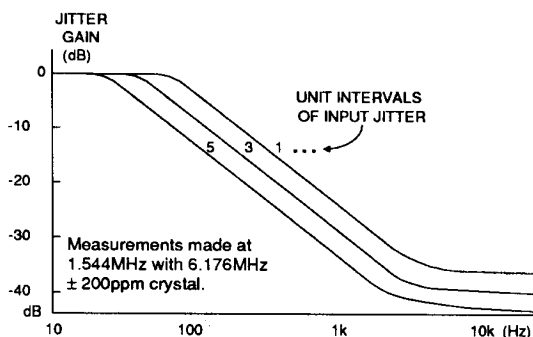
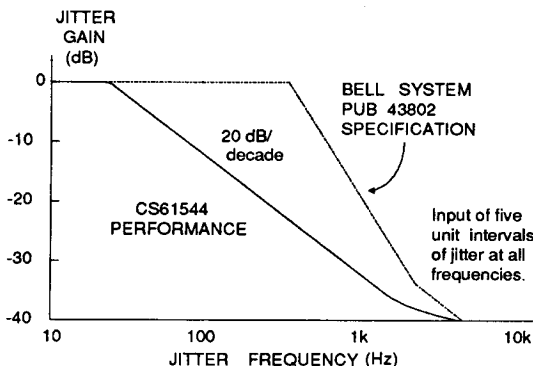

Figure 5 - CS61544 Jitter Attenuation Curves
Figure 6 - Jitter Attenuation Characteristics
- Crystal pull range: ± 200 ppm. Five unit intervals of input jitter. Slope above corner frequency is -20dB/decade. See Figure 5.
The 61544 will tolerate and attenuate at least seven unit intervals of jitter (peak-to-peak) from a T1 signal. Figure 5 shows a family of curves which show the jitter attenuation achieved by the 61544. Each curve shows the jitter attenuation for a signal with constant jitter amplitude over a range of jitter frequencies. The more jitter a signal has, the more the jitter is attenuated. The jitter attenuator on the transmitter side meets the jitter attenuation and input tolerance specifications of AT&T Publication 43802, as shown in Figures 6 and 7.